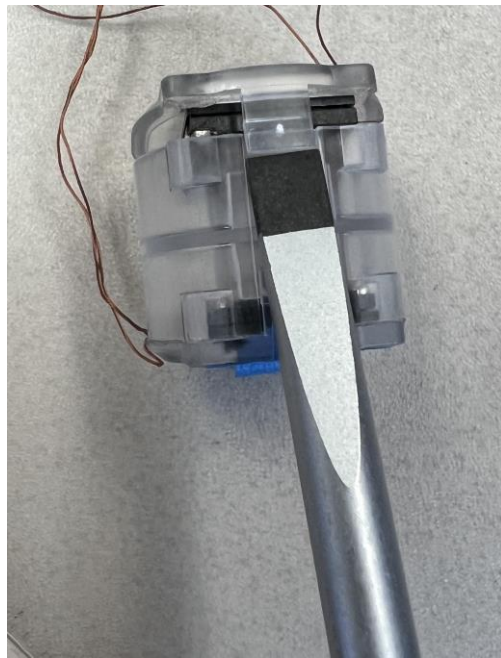

Figure 3 - Prying Off Speaker Latch
- 3.9. Using a small flat blade screwdriver, pry the two tabs of the speaker latch off. See Figure 3. Then, separate the speaker from the plastic parts. Repeat for the other speaker.